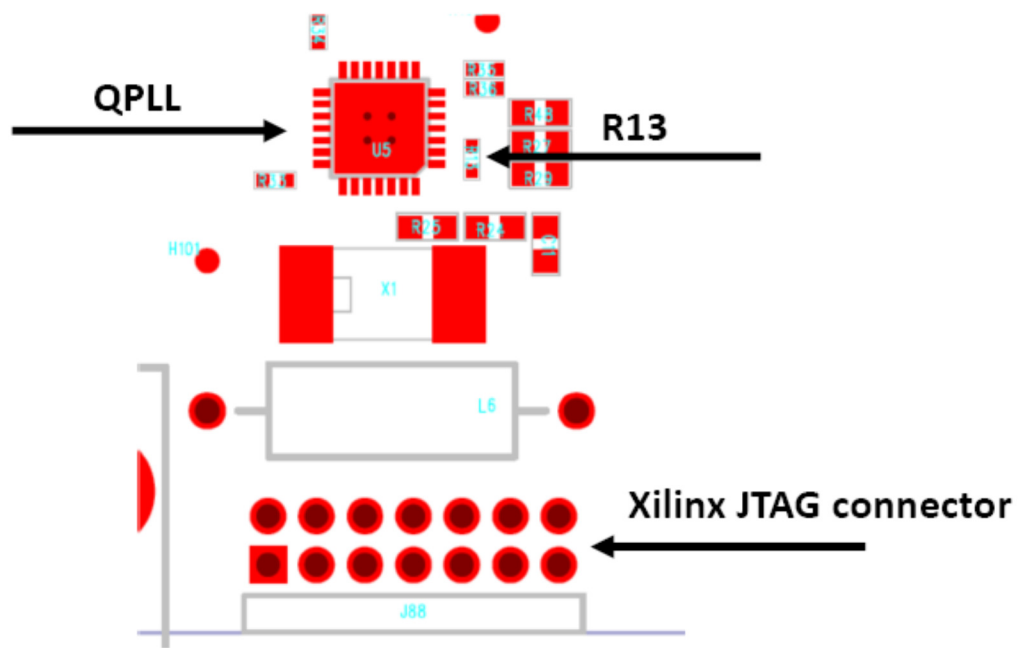

Fig.3: Position of resistor R13
- Connect one of 7 outputs of PPIB (any of them) to DCFEB. The only signal that needs to be delivered from ODMB to DCFEB through the PPIB for this test is the 40.079MHz LHC-like clock. It is provided in LVDS levels to the inputs of QPLL and can be checked with a scope on both ends of resistor R13 (Fig.3, top side of the DCFEB board, close to 14-pin Xilinx JTAG connector).